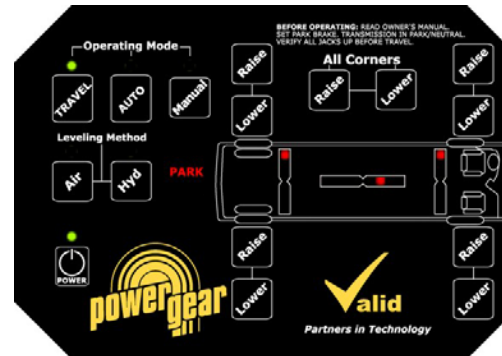

Fig 1
2. Press **AUTO** to initiate a leveling cycle. If the level controller will not go into Auto mode it is most likely because the vehicle's parking brake has not been applied (Fig 1). Apply the parking brake to have the system go into Auto mode.
If the level controller will not go into Auto mode it is most likely because the vehicle's parking brake has not been applied (see Fig 1 on page 5). Apply the parking brake to have the system go into Auto mode.